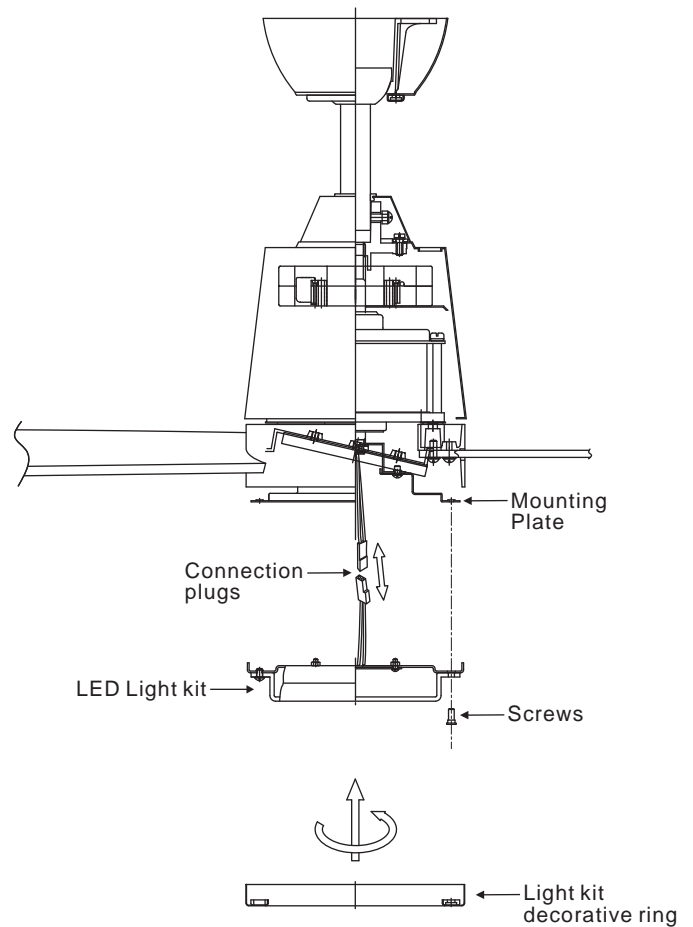

Figure 13
Step 1. Remove the 1 of 3 screws from the posts of the mounting plate and keep it for future use. Loosen the other 2 screws. (Do not remove) (Fig. 13)
Step 3. Place the key holes in the LED light kit over the two screws previously loosened from the mounting plate. Turn the LED light kit until the LED light kit locks in place at the narrow section of the key holes. (Fig. 13)
Step 4. Securely tighten the two light kit mounting screws previously loosened and the one previously removed. (Fig. 13)
Step 5. Raise light kit decorative ring up against the LED light kit, and secure it to fan by turning light kit decorative ring clockwise until snug. DO NOT OVERTIGHTEN. (Fig. 13)